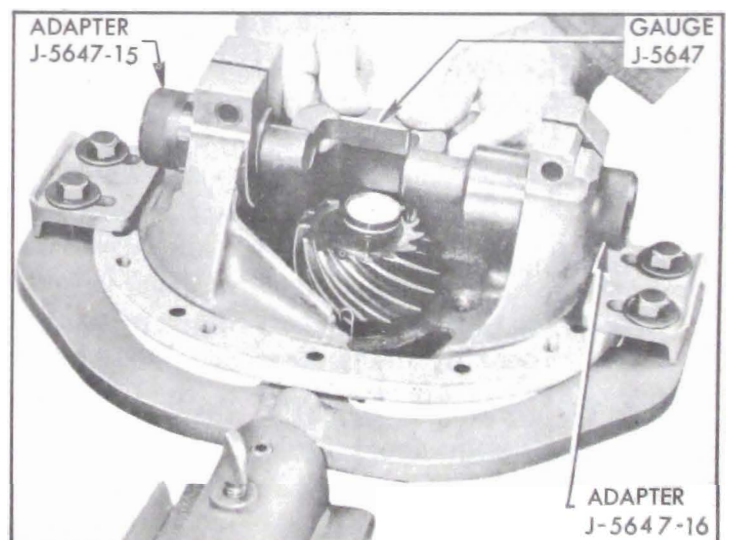

Figure 6-29—Checking Pinion Setting
8. Drive a wedge into each pedestal split and spread them just enough so that Adapters J-5647-17 will slip in. Then place the indicator gauge in the carrier as follows: (see figure 6-29).